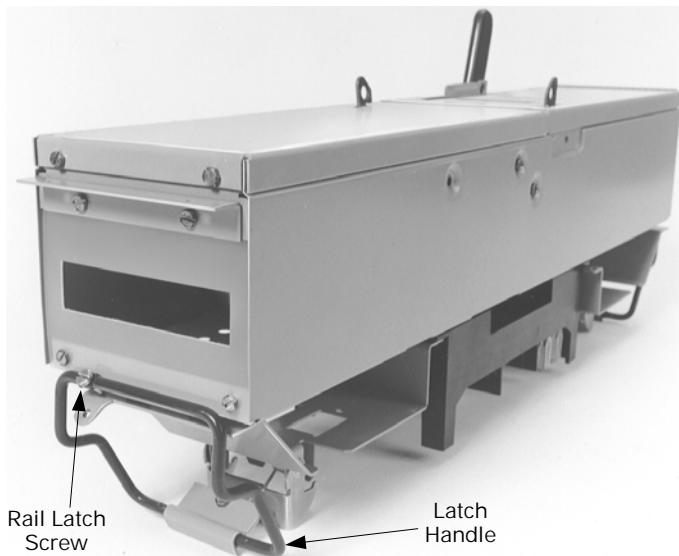

Figure 1. Removing the fusible switch from the equipment.
1. **Remove the fusible switch unit from the panelboard or switchboard.** Remove the load-side wires from the switch load-side terminal. Loosen the rail latch screws on each side of the switch unit and remove the switch by pulling up on both latch handles, as shown in Figure 1, while pulling the device from the panelboard.